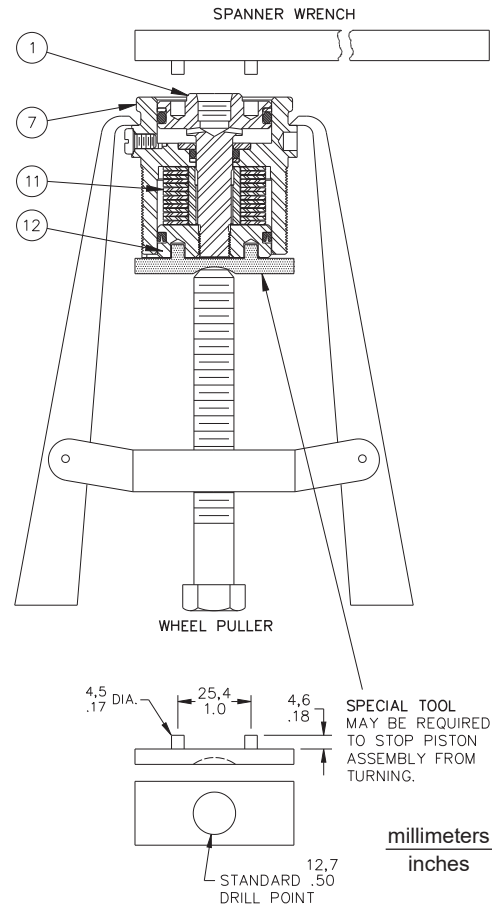
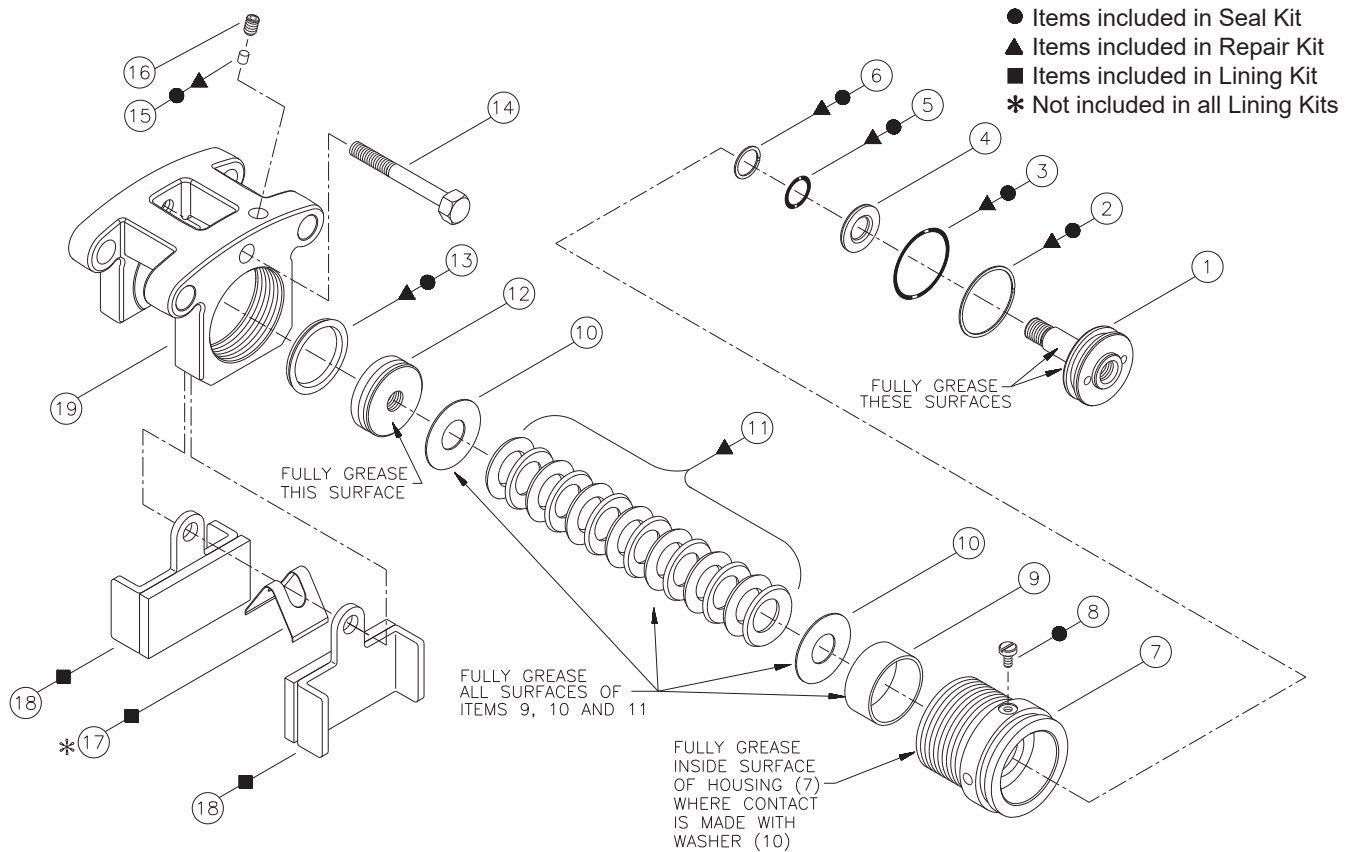

FIGURE 3
FIGURE 4
• Belleville springs included in this kit are pre-greased. DO NOT remove grease from springs (see Grease Note in Figure 4 on page 3).
(Refer to Figure 4)
(Refer to Figures 3 and 4)
2. Remove set screw (16) from housing (19) and remove brake module housing (7) from housing.
3. Position brake module housing (7) in a wheel puller (Refer to Figure 3). Apply force until piston (12) retracts approximately 0.80 mm (0.03 in). Using a spanner wrench, remove piston (1).
4. Carefully remove o-ring (3) and back-up ring (2) from piston (1). **NOTE: Be careful not to scratch or mar piston.**
5. Remove wheel puller from brake module housing (7). Carefully remove piston (12), washers (10), belleville springs (11), spacer (9), back-up ring (6), o-ring (5), and insert (4) from brake module housing. **NOTE: Be careful not to scratch or mar brake module housing bore.**
NOTE: Due to the extreme pressure created by the belleville springs (11), the procedure shown in Figure 3 is needed to disassemble brake module housing (7).
6. Remove cup (13) from piston (12). **NOTE: In older models item 13 will be an o-ring.**
8. Carefully install new back-up ring (6), new o-ring, (5), and insert (4) in brake module housing (7). Note order of back-up ring and o-ring.
9. Carefully install new o-ring (3), and new back-up ring (2) on piston (1). Note order of o-ring and back-up ring.
10. Carefully install piston (1) into brake module housing (7).
11. Lubricate all items as shown in Figure 4 with a light coat of heavy, waterproof grease (See GREASE NOTE, Figure 4). Install belleville springs (11), washers (10), and spacer (9) into brake module housing (7). **NOTE: If seal kit is being installed use existing belleville springs after completely lubricating with a light coat of heavy, water proof grease (See Grease Note, Figure 4). If repair kit is being installed use new belleville springs, already greased. Be sure to use the same number of belleville springs and washers in the same order as they were disassembled.**
12. Install new cup (13) on piston (12) and carefully install in brake module housing (7) by threading onto piston (1). Note direction of cup(13).
13. Reposition brake module housing (7) in wheel puller (Refer to Figure 3). Apply force until piston (12) moves approximately 0.80 mm (0.03 in). Using a spanner wrench, tighten piston (1) securely.
15. Install brake module housing (7) into housing (19). Hand tighten brake module housing.